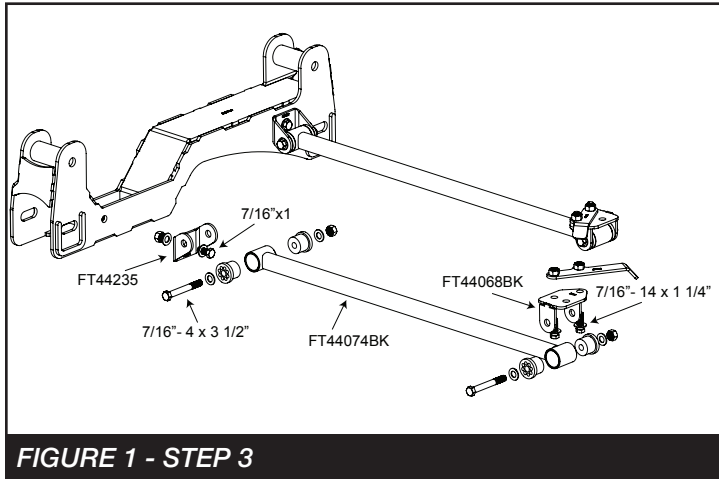

FIGURE 1 - STEP 3
3. Locate the two FT44235 impact strut brackets, two 7/16" -14 x 1" bolts , nuts and washers. Mount the brackets to the rear crossmember. Torque to 83 ft-lbs. **SEE FIGURE 1**